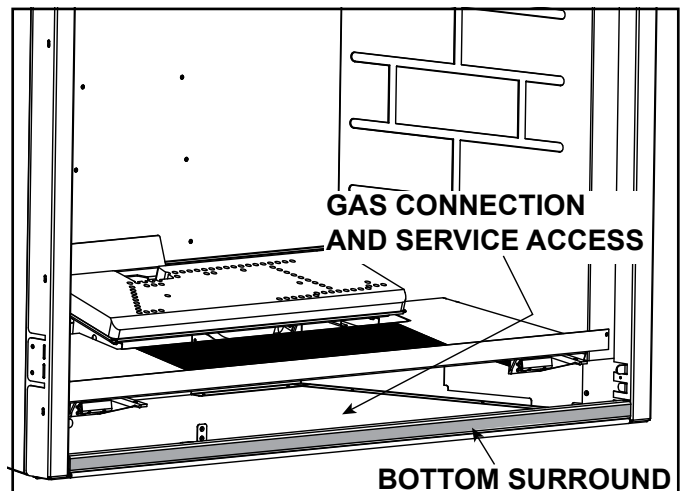
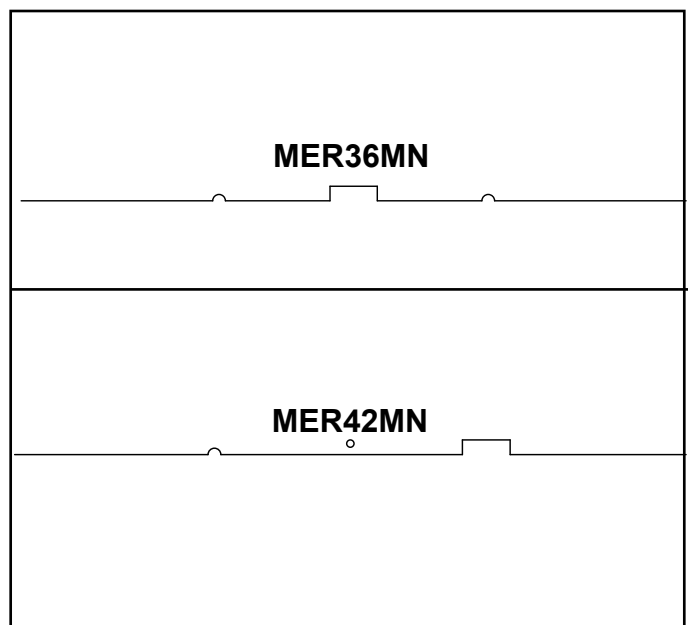

Figure 9.1 Bottom Surround Removal (Generic Fireplace Shown)
Figure 9.3 Burner Identification
- The bottom surround for this appliance may be removed to gain access to the control cavity for ease of access during the gas connection process. See Figure 9.1 and Figure 9.3.
Figure 9.3 illustrates the identification pattern of the burner. This can be found on the underside of the burner along an edge.